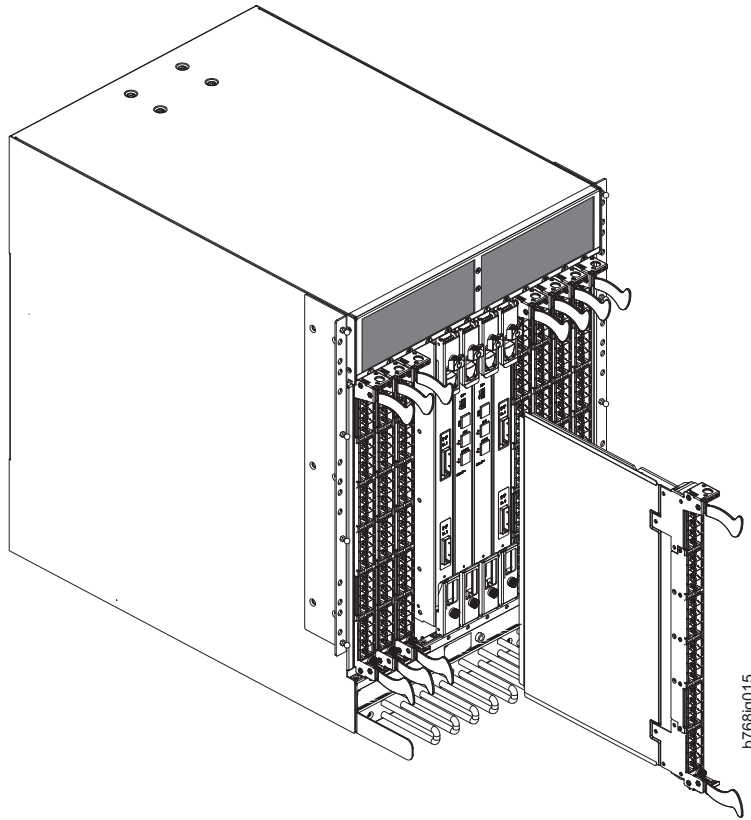

Figure 31. Port, application, and encryption blade removal and installation (FC8-48 port blade shown as example)
- **For FC8-16, FC8-32, FC8-48, FC8-64, and FC10-6 port blades, FX8-24 and FCOE10-24 application blades, and FS8-18 encryption blades:** Unscrew the two thumbscrews from the top and bottom ejectors on the blade (see Figure 31 on page 74) using the Phillips screwdriver. Unscrew the top thumbscrew until it pops out. This initiates a hot-swap request.
- **For FC8-16, FC8-32, FC8-48, FC8-64 port blades, FX8-24 and FCOE10-24 application blades, and FS8-18 encryption blades:** Open the ejectors by pulling them toward the center of the blade face. Pull the blade out of the chassis using the ejectors (Figure 31 on page 74).